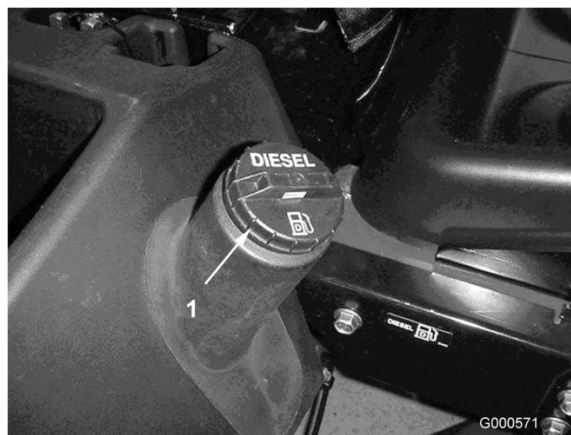

Figure 13
1. Remove the fuel tank cap (Figure 13).